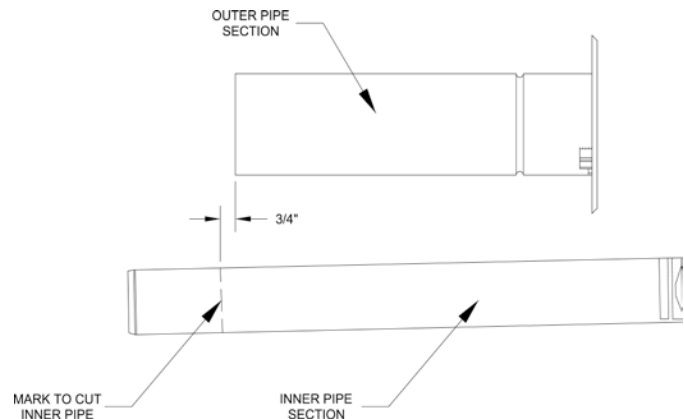

Figure 16: Cutting Inner Pipe
- f. Cut off the marked end of inner polypropylene vent pipe with a fine tooth blade hacksaw etc. and deburr. See Figure 16 “Cutting Inner Pipe.”
- g. Place a mark around the outer pipe, 1” from cut edge, towards the attached Outside Wall Plate, to establish visual insertion line as shown in Figure 16 “Cutting Inner Pipe”.